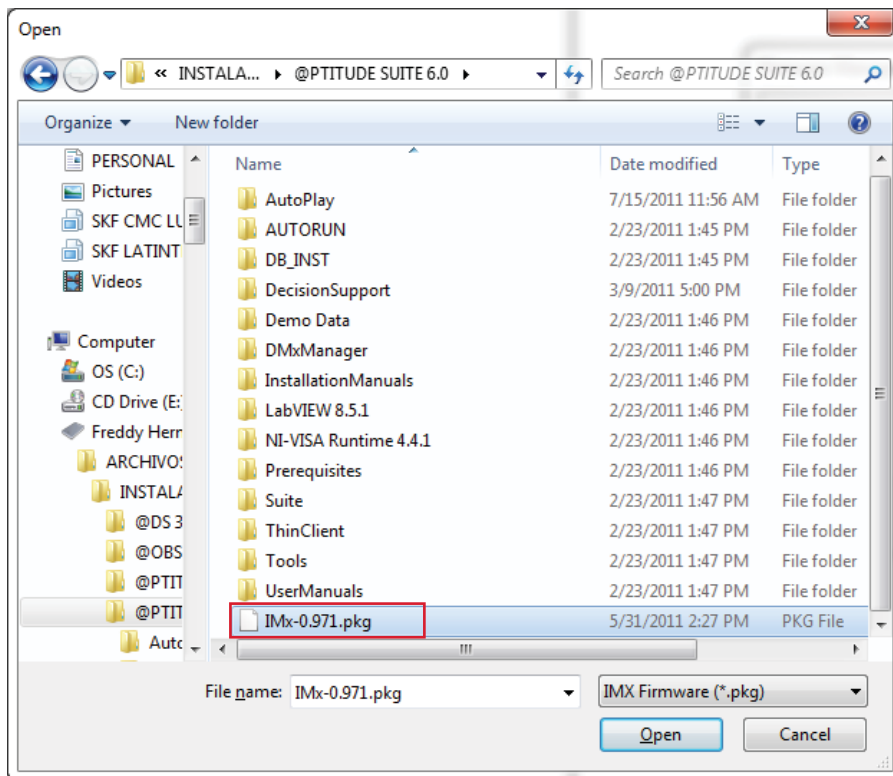

Fig. 26. Open the .pkg file.
- You will find the firmware on the Analyst CD. From the CD directory (→ fig. 26), highlight the **.pkg** file and click **Open**.